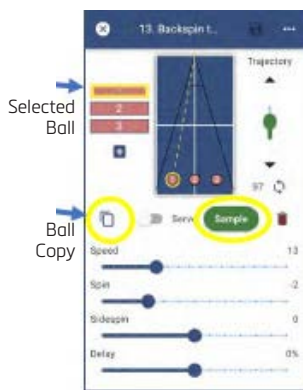

Figure 3-66
3.5.8 – Sample Button (Figure 3.66)
2. Choose the Ball that you'd like to duplicate by touching the corresponding Ball Selector. (Figure 3-66)
3. Press the Ball Copy button. (Figure 3-66) A new ball will be added to your Drill with the same parameters as the previously selected ball.